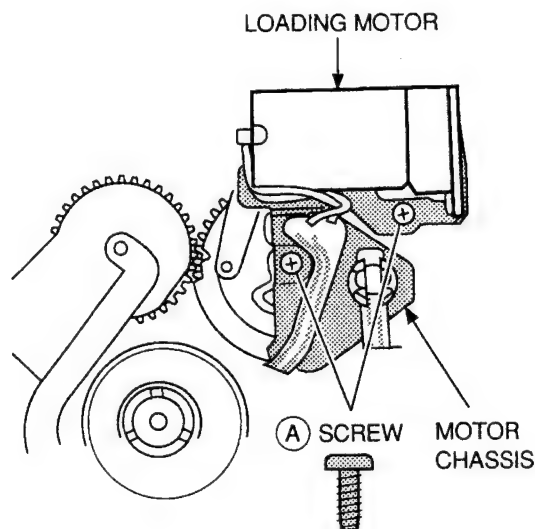

Fig. 3-26
3. Remove the two (A) screws which retain the MOTOR CHASSIS as shown in Fig. 3-26.